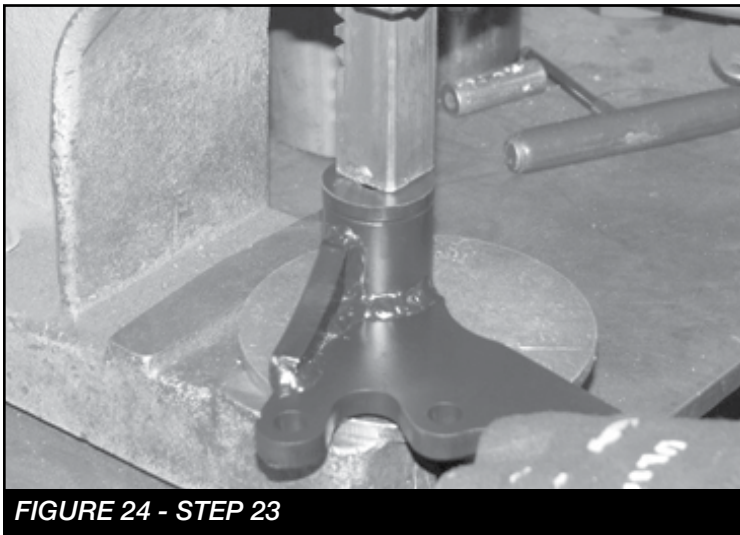

FIGURE 24 - STEP 23
22. Locate the center differential bracket (FT30645). Install two of the Fabtech (FT1020) bushings and one sleeve (FT181) into the barrel on the differential bracket. **SEE FIGURE 24**